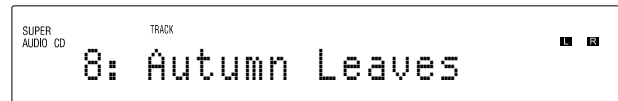

Figure 19
2. In a similar manner, some SACD Discs have the ability of scrolling the Track Number and Title by pressing the MENU/TEXT Push-button **after** the Track has started to play. Refer to figures 19 and 21.